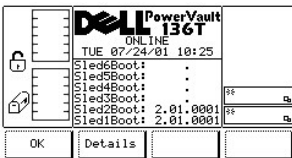

Figure 124. About > Details Dialog (tertiary screen)
- 1 If the button beneath the **Details** softkey is pressed, the follow on dialog is displayed. See Figure 124.